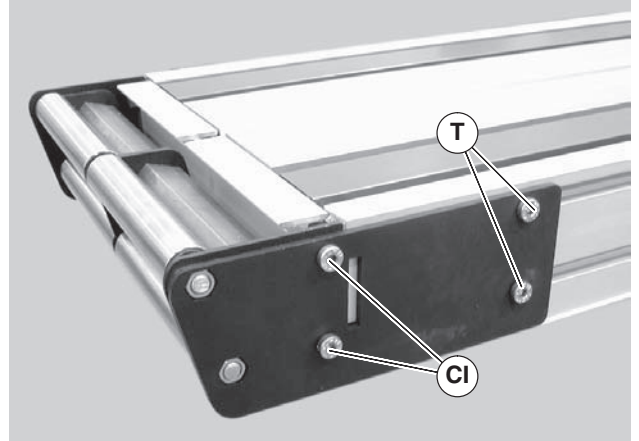
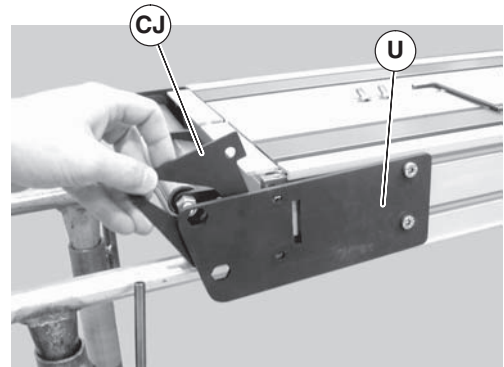

Figure 67
Figure 68
2. On one side of conveyor, loosen the two (2) back fastening screws (Figure 67, item T), and remove the two (2) front fastening screws (CI).
3. Pull back the outer headplate (Figure 68, item U) and remove the inner spacer (CJ).
Transfer tail assembly must be removed as on piece. Removal may require removing screws T of Figure 66 and headplate U of Figure 67 as shown in Figure 68